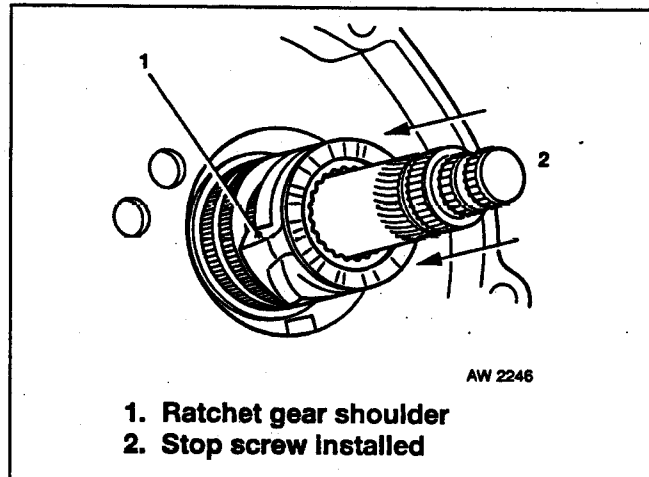

Fig 2.34 Kick-Start Installation
- b. Partially engage the ratchet gear onto the shaft splines (Fig 2.34 refers).